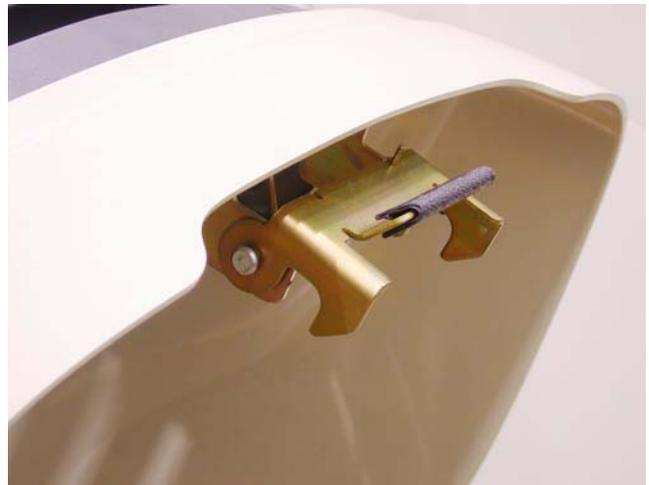

Figure 2.6
2.6. A new spring-loaded latch was added to hold the hood closed. See Figure 2.6.